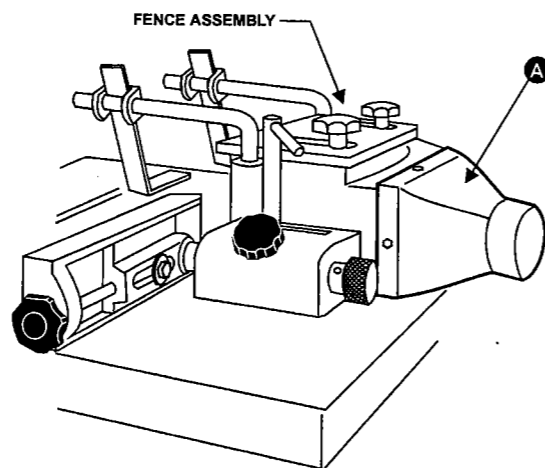

FIGURE 4
3. Attach dust collector hood (A), Figure 4, to fence assembly.